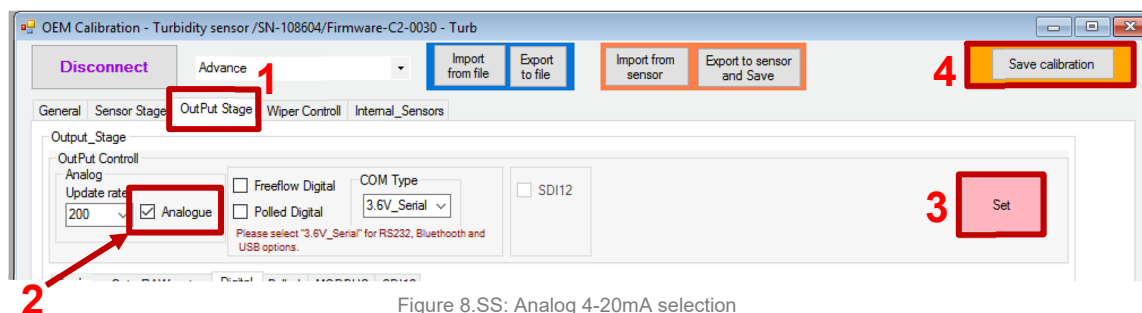

Figure 8.SS: Analog 4-20mA selection
- Select “OutPut Stage” option (Figure 8.SS: Analog 4-20mA selection#1).